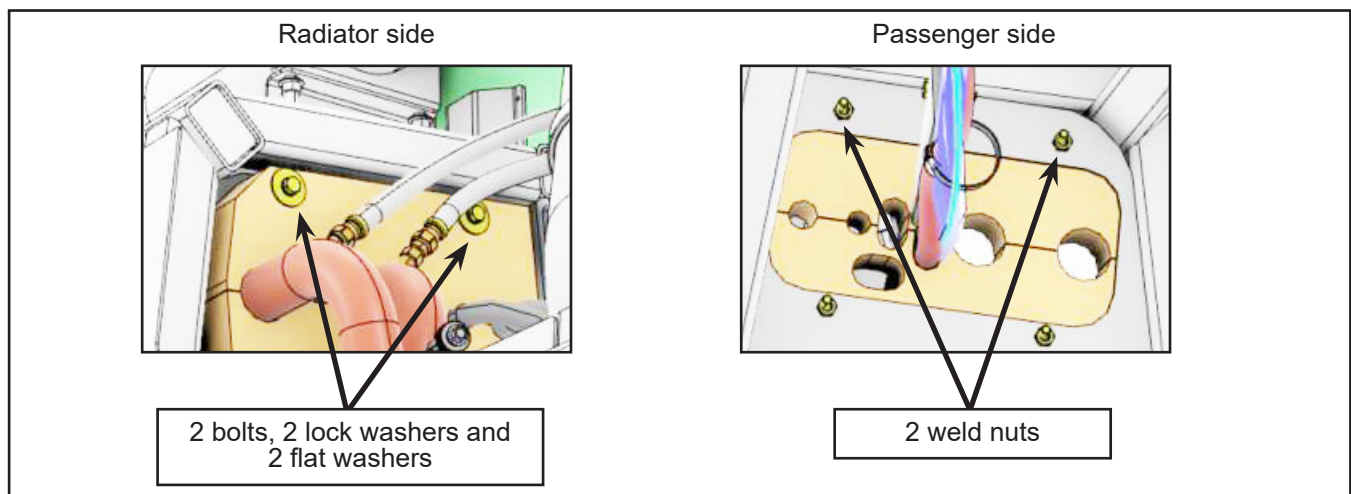
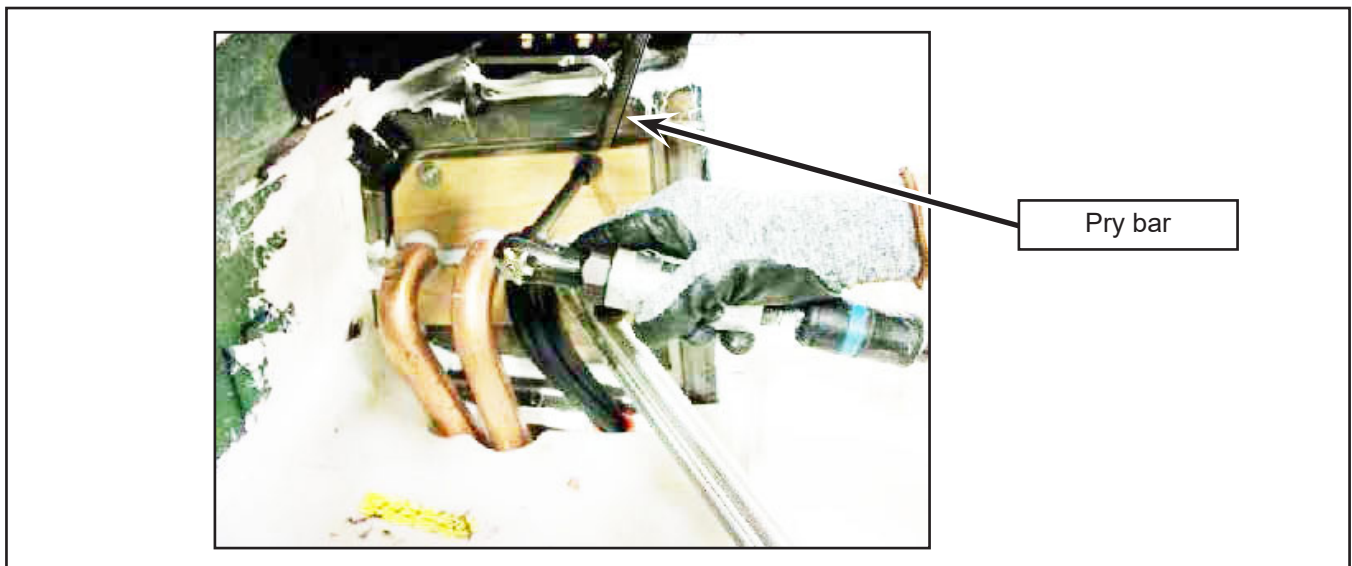

Figure 11 - Remove Upper Block
Figure 14 - Force the seat on the inferior block with a pry bar and tighten bolts
- b. Remove the upper block by removing the 2 bolts, 2 lock washer and 2 flat washers (Figure 11). The block will be hard to remove and may break. Discard block and hardware.
- c. Install the new upper block N80788 with 2 new bolts N43011, 2 new lock washers N17904 and 2 new flat washers N20996 (refer to Figure 11). Use a pry bar (or similar tool) between the superior block and the structure to help properly sit the upper block on top of the lower block and be able to insert the bolts into the stainless steel plate weld nuts (Figure 14). Tighten bolts.